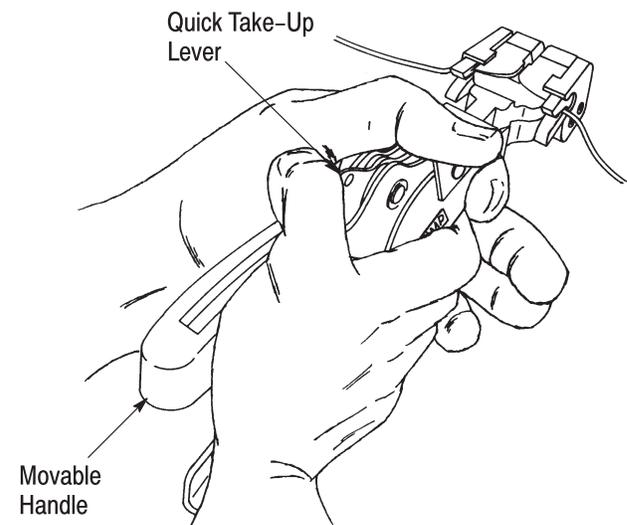

Figure 4
3. Hold the tool steady by grasping the front portion of the fixed handle with one hand and use the other hand to close the quick take-up lever and movable handle. See Figure 4.